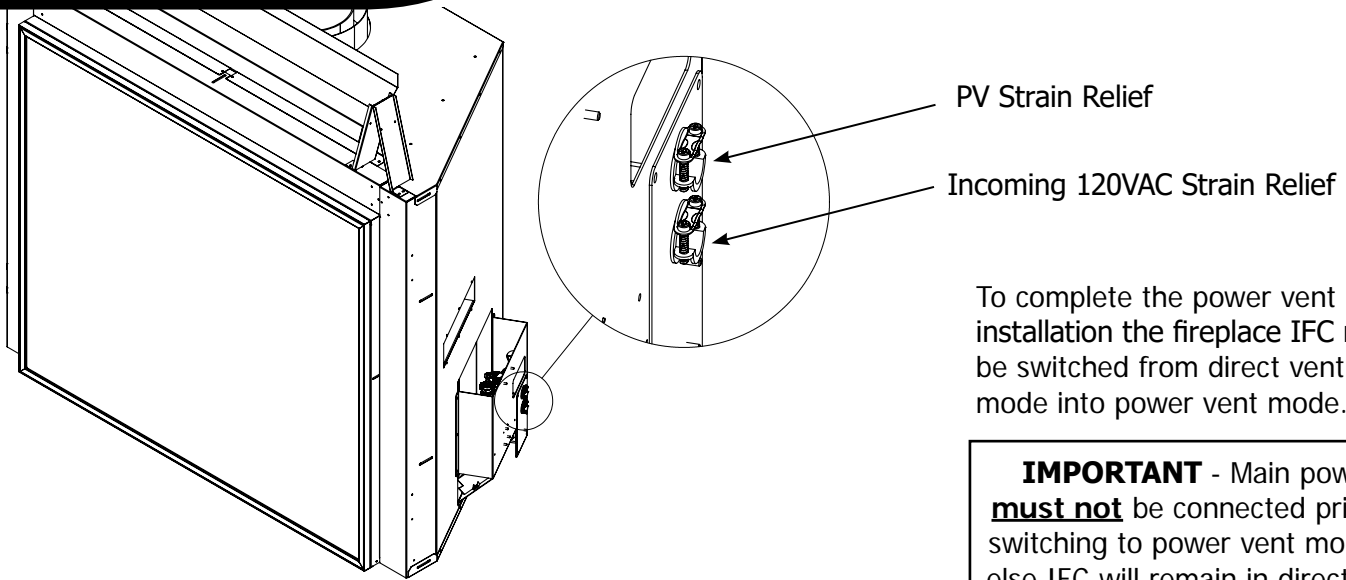

Figure 24: Power Vent Cable Strain Relief (U55 models)
2. Routing the 5-Wire Cable - Locate the unused electrical strain relief on the right side of the appliance of U55 models (Figure 24) and route the supplied 5-wire cable through it. Feed enough cable through to reach the IFC then tighten the strain relief.